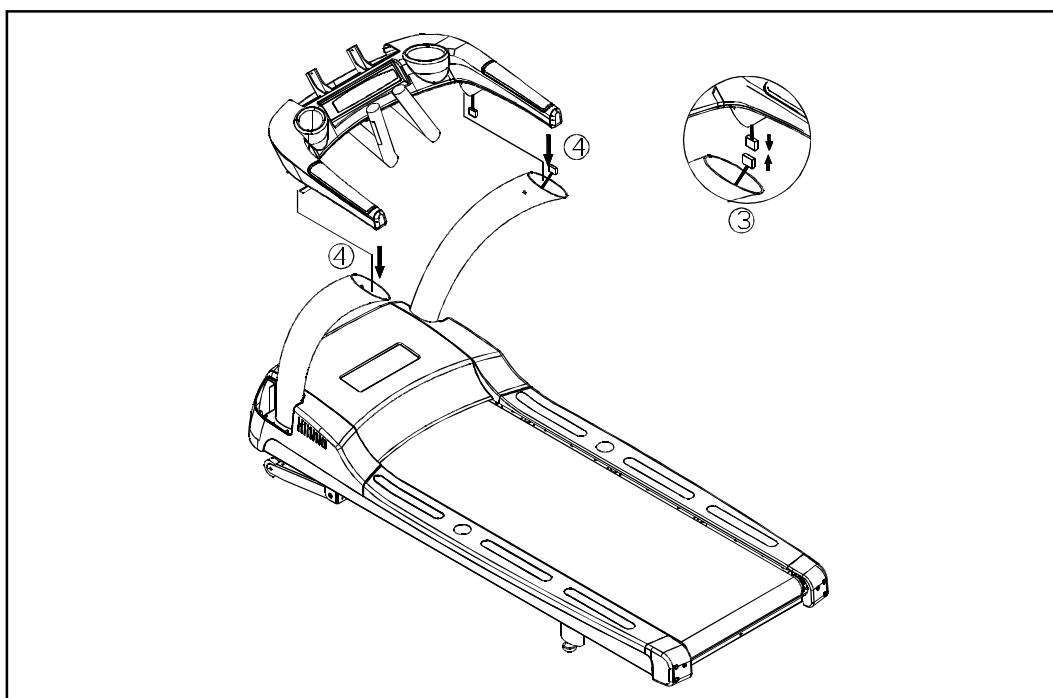

Fig.2
STEP 2. Connect the data cable. Then hold the handlebars onto the pedestals. (See Fig. 2.)